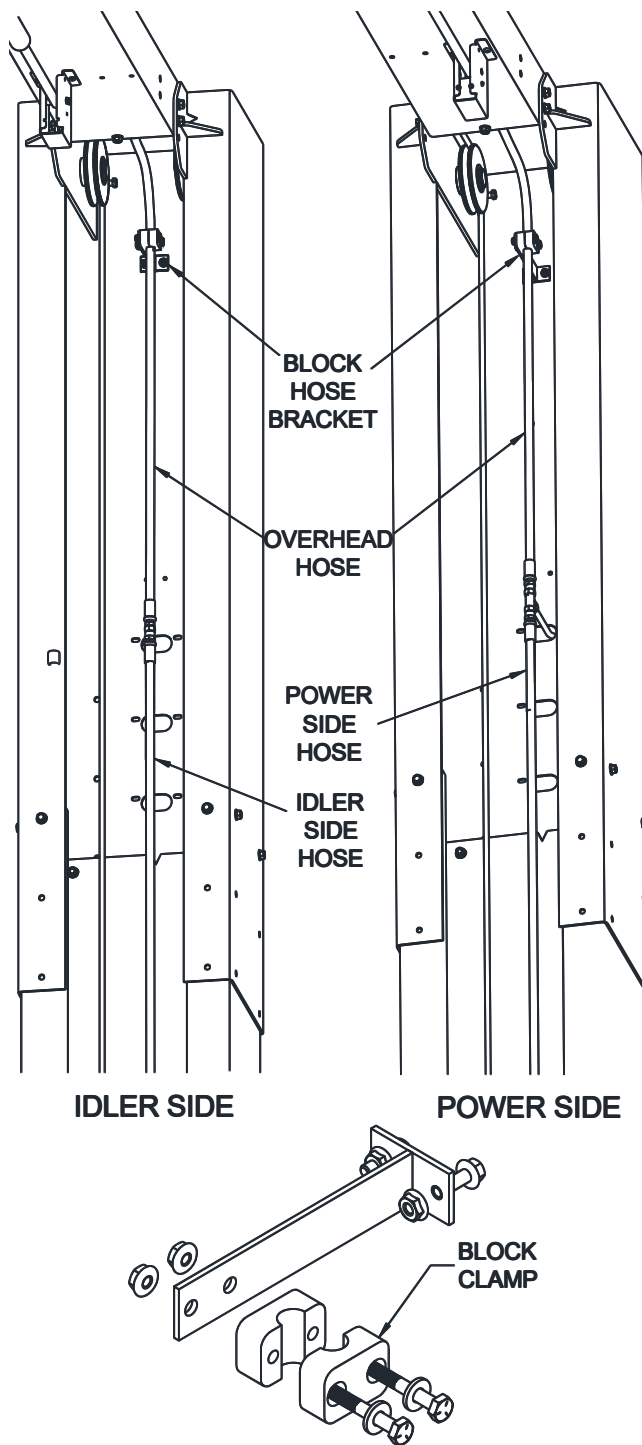

Fig. 12 – Hose Mounting
- 33) Install the block hose clamp bracket onto both column extensions using 1/4" -20NC x 3/4" lg. hex flange bolt and nut, see **Fig 12**.
- 34) Uncoil the Idler Side hose and Overhead hose and attach them together. Route the loose end through Idler Side column extension as shown in Fig 12.
- 42) Tighten the three hose fitting connections at the Tee taking care not to twist or change the lay of any hose. Install and tighten the block clamp on the power side to hold up the connect to the tee, see Fig 12.